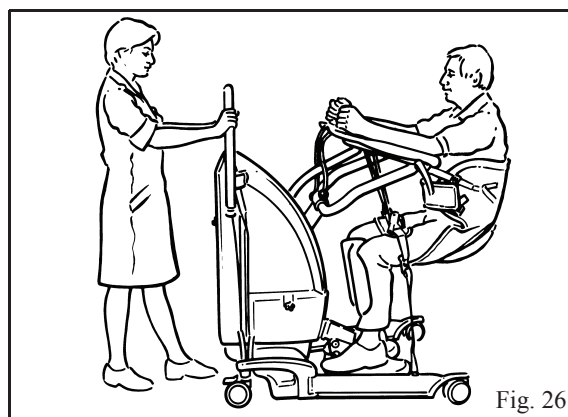

Fig. 26
12. Release the chassis brakes and close the chassis legs, then transport the patient to desired position. (See Fig 26)